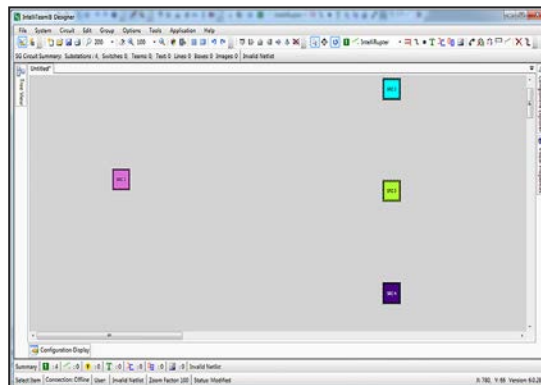
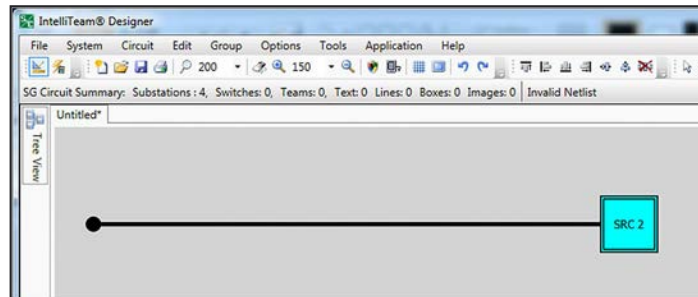

Figure 37. Align and space the sources at the right.
Figure 44. Release the mouse button over a termination point to make a connection.
STEP 4. When all of the objects have been selected, click on the Align Right tool to line up the sources with the farthest right source. Then, click the Space Vertically tool to evenly space the sources. See Figure 37.
STEP 3. Select the left termination point shown in Figure 37, and drag a wire over to SRC 2. Drag the mouse cursor until the termination point on SRC 2 becomes visible. While holding the mouse cursor over the SRC 2 termination point, release the mouse button to make the connection. See Figure 44.